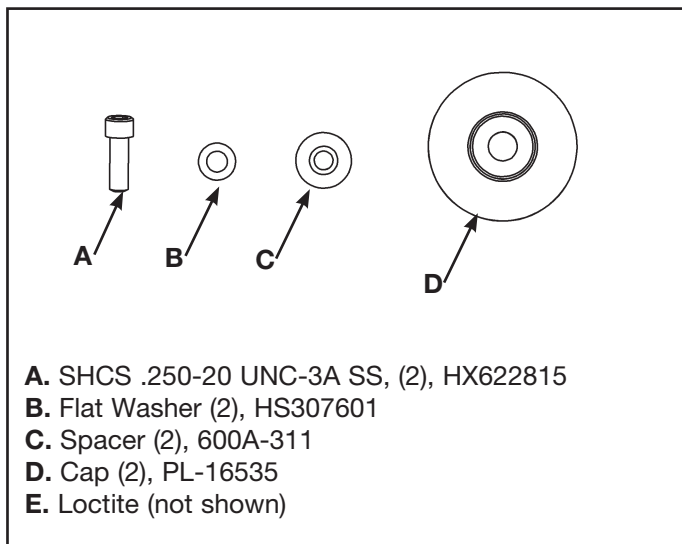

Figure 1
2. Verify kit contents. See Figure 1.